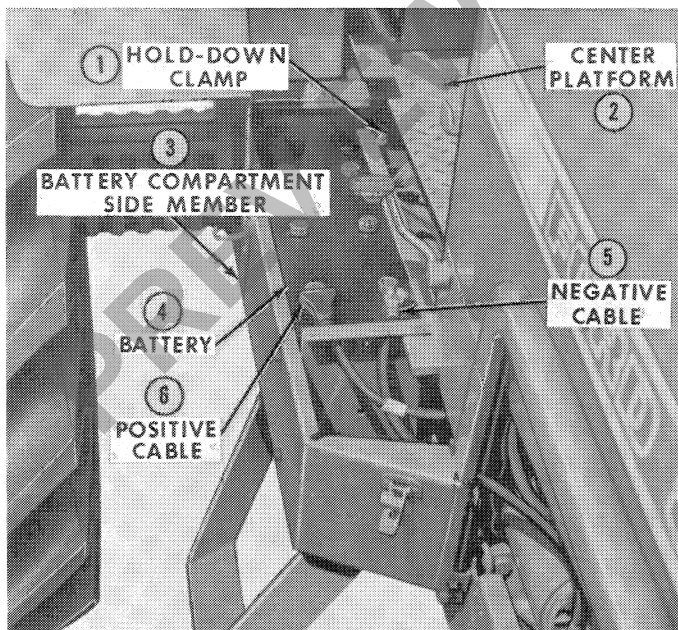

Figure 7
1. Remove the battery cover, center platform, battery compartment side member, battery cables (negative cable first) and the hold-down rods and clamp, battery, and battery support. Refer to Figure 7.